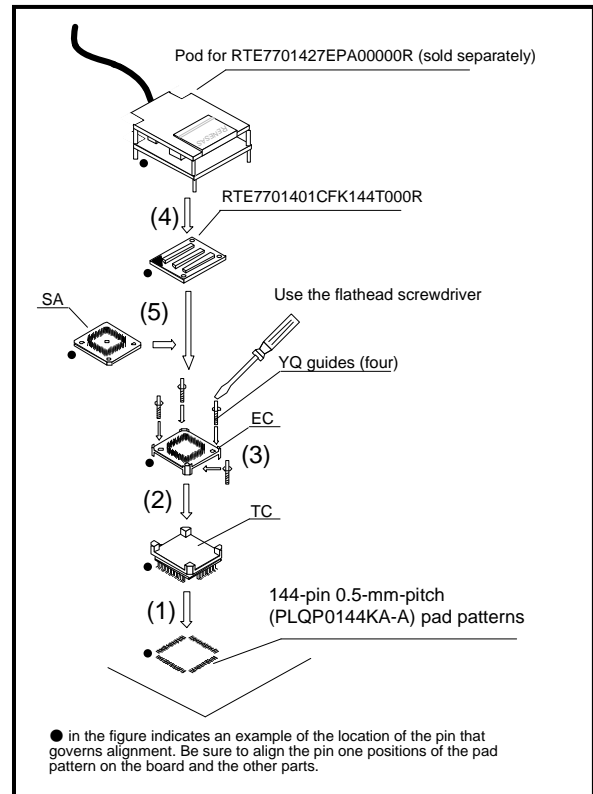

Figure 3 Procedure for Connecting the RTE7701401CFK144T000R
5. Connection Procedure (See Figure 3)